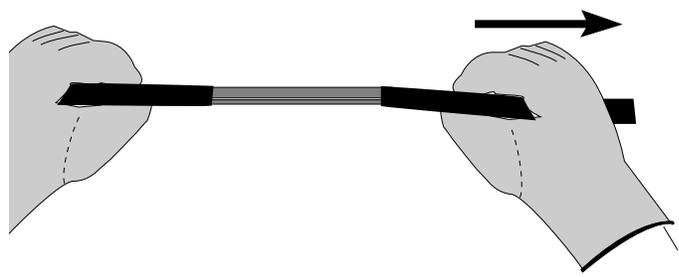

Figure 5
5.7 Slide the 6-inch (15 cm) section of oversheath off the end of the cable (Figure 5).